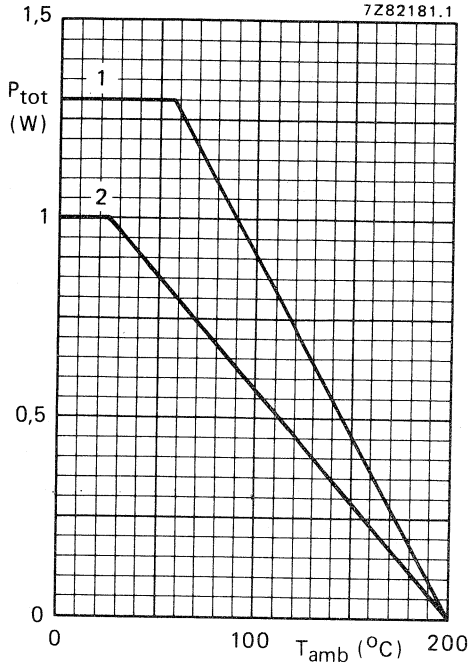

Fig. 2 Maximum permissible power dissipation versus ambient temperature.
**Mounting methods** (see Figs 2 and 3)
1. To tie-points (lead length = 4 mm in Fig. 2).
2. Mounted on a printed-circuit board (with lead length of 10 mm in Fig. 2) and print copper area of  $1 \text{ cm}^2$  per lead.